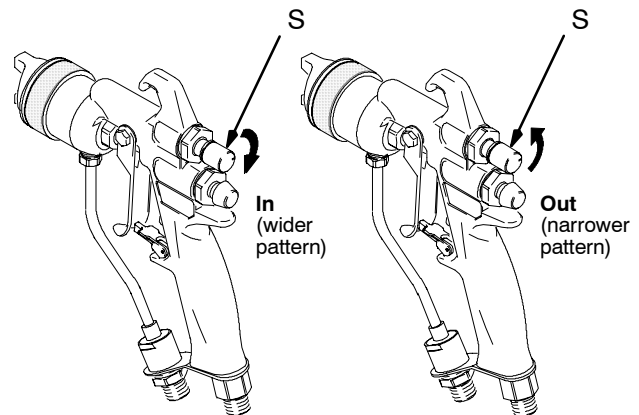

Fig. 5
4. Close off the pattern adjustment air by turning the knob (S, see Fig. 5) clockwise (in) all the way. This sets the gun for its widest pattern.
For a narrower pattern, turn the pattern adjustment valve knob (S, see Fig. 5) counterclockwise (out). If the pattern is still not narrow enough, increase the air pressure to the gun slightly or use a different size tip.